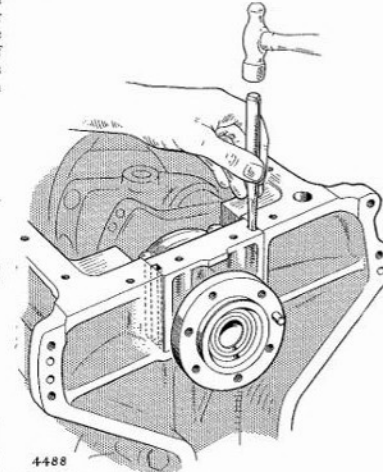

Fig. B.116. Packing the crankshaft rear main bearing cap grooves with felt
4. Pack felt into the grooves in the rear main bearing cap, cutting the felt into short strips and tapping them into the grooves tightly with a suitable rod (see Fig. B.116).